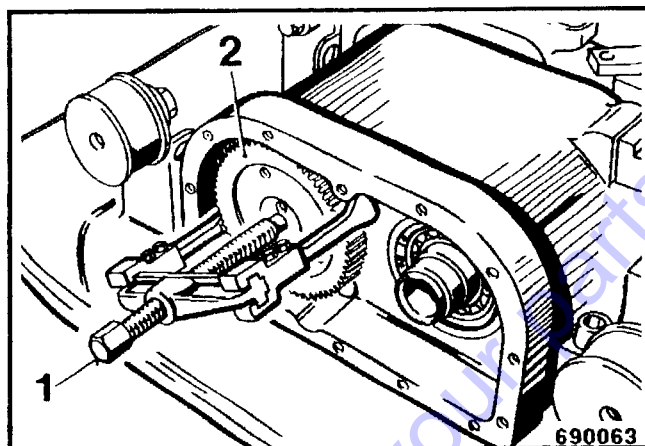

Fig. 5
- Install the puller 1 (Fig. 5) and pull the gear wheels (2) off.